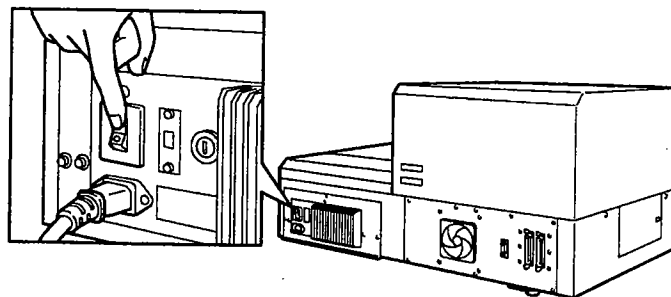

Fig. 2.5 IP Reader Power ON
Place the IP Reader power switch (located on the right-hand side of the rear panel) in the ON (I) position. (For a detailed diagram of the rear panel, see Fig. 2.5 on page 18.)
Turn the power switch on the rear to the O side before reading the IP. (See Fig. 2.5 on page 18 to confirm the location of the power switch.)